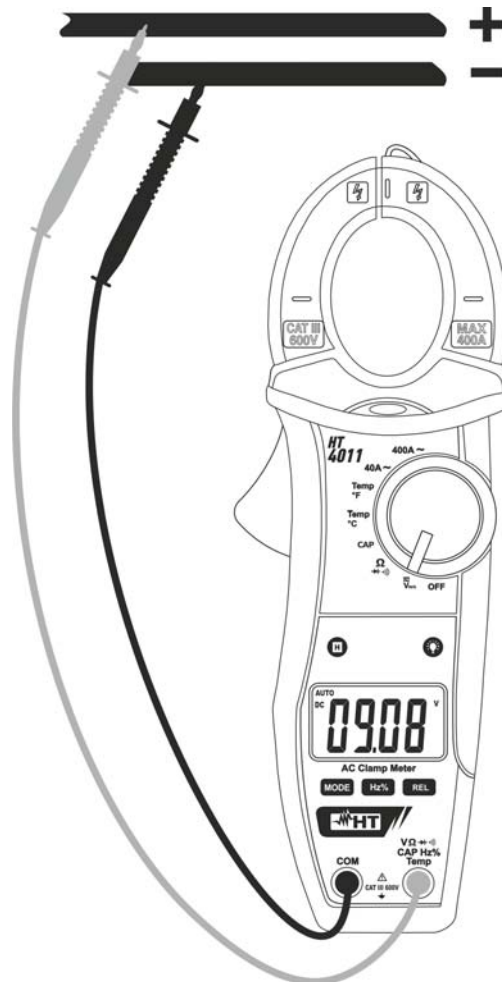

Fig. 3: Use of the clamp for DC Voltage measurement
3. Position the test leads in the desired points of the circuit to be measured (see Fig. 3). The display shows the value of voltage.
5. When symbol "-" appears on the instrument's display, it means that voltage has the opposite direction with respect to the connection in Fig. 3